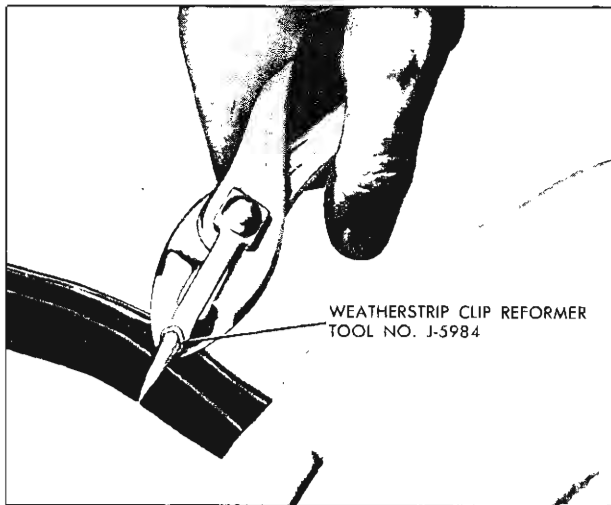

Fig. 14-18 Weatherstrip Clip Reformer Tool
2. Remove remote control attaching screws (Fig. 14-18). Disengage locking rods from remote control and remove remote control from back door.
2. Check weatherstrip clips for proper contour and reform clips, where required, using clip reforming tool J-5984 (Fig. 14-18).